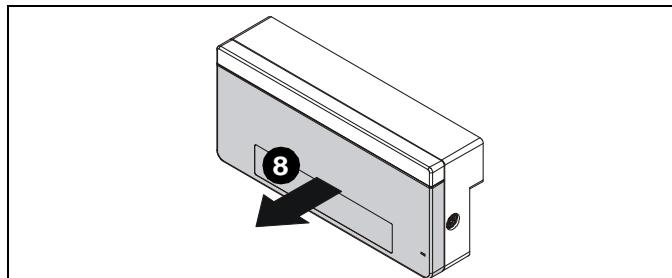

Figure 8
8. Remove and keep sensor cover. (See Figure 8)